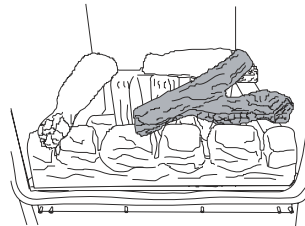

Figure 14
3. Place one **straight log** on the rear ceramic, across the rear right hand side, with the burnt end facing right. Place the other **straight log** on the left hand side, with the burnt end facing front, bridging between the front and rear ceramic (see **Figure 14**)
4. Place the **large 'Y' log** across the front ceramic with one of the legs of the 'Y' resting on the straight log at the back (see **Figure 14**).